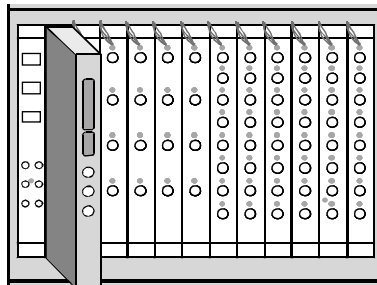

Figure 23 Removing a Module From the Mainframe
- 5 Pull the module out of the mainframe, as shown in *Figure 23*.